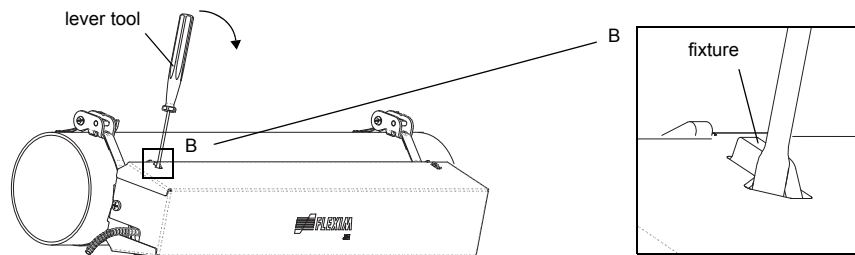

Fig. 9.48: Removal of the cover
- Insert the lever tool in one of the four openings of the cover (see Fig. 9.48).